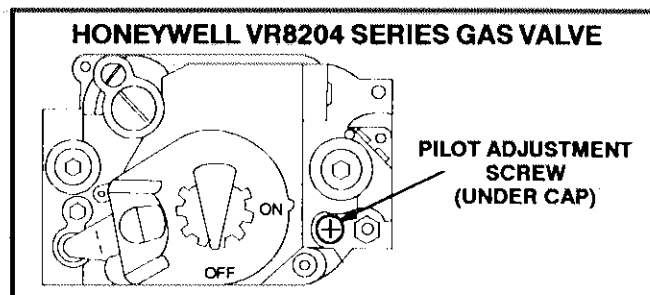

FIGURE 26
- 6- Identify the gas valve being used and locate the pilot adjustment screw. On some gas valves the actual adjustment screw is under a cap. See figures 26, 27, and 28 for pilot adjustment screw locations.